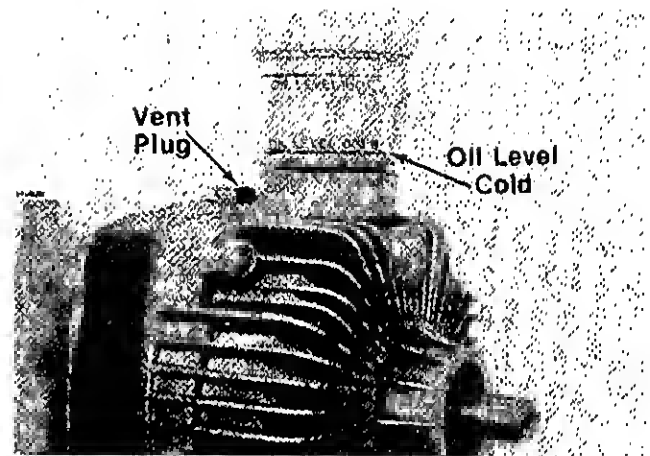

FIGURE 15.
The transmission fluid level should be checked prior to initial use. The level should not be above the COLD mark which is about 1/4" from the bottom of the reservoir/expansion tank. (See figure 15.)
3. Check the oil level in the reservoir/expansion tank. (See figure 15.)